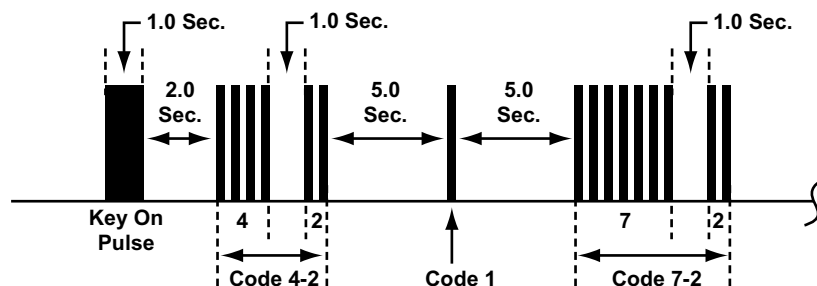

Figure 8-29 Honda ABS Code Type 02
- Type 02, see Figure 8-29 and Table 8-6 on page 77